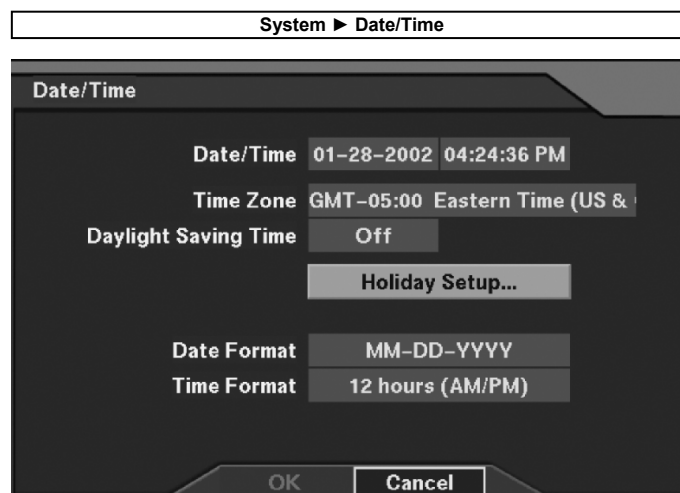

Figure 6 Date/Time Setup Dialog
- **Date/Time:** Set up the date/time (Refer to Figure 6 Date/Time Setup Dialog.).